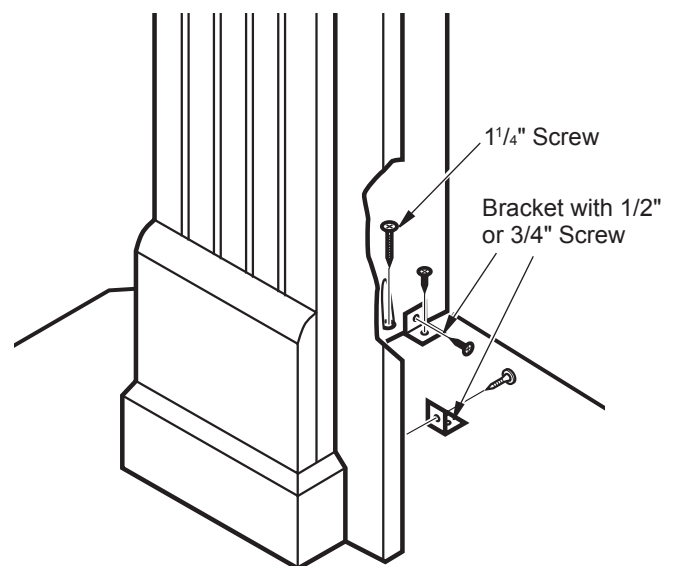

Figure 9 - Installing Brackets to Mantel Base
4. Attach mantel to base using 1/4" screws through pocket holes. Using brackets and 1/2" or 3/4" screws from bracket hardware kit, attach brackets to base and mantel assembly using one bracket at each back corner of leg sides and one on each leg front (see Figure 9).
2. Attach mantel to base using 1 1/4" screws through pocket holes. Using brackets and 1/2" or 3/4" screws from bracket hardware kit, attach brackets to base and mantel assembly using one bracket at each back corner of leg sides and one on each leg front (see Figure 9, page 3).